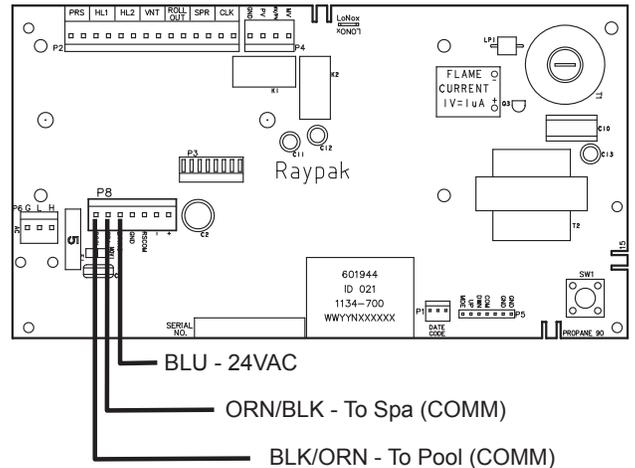

Figure 56. 3-Wire Remote Harness Installation on the P8 Connector of the Board
- Install the "Remote Interface Harness" to the P8 connector and turn power ON to the heater. See **Figure 56**.